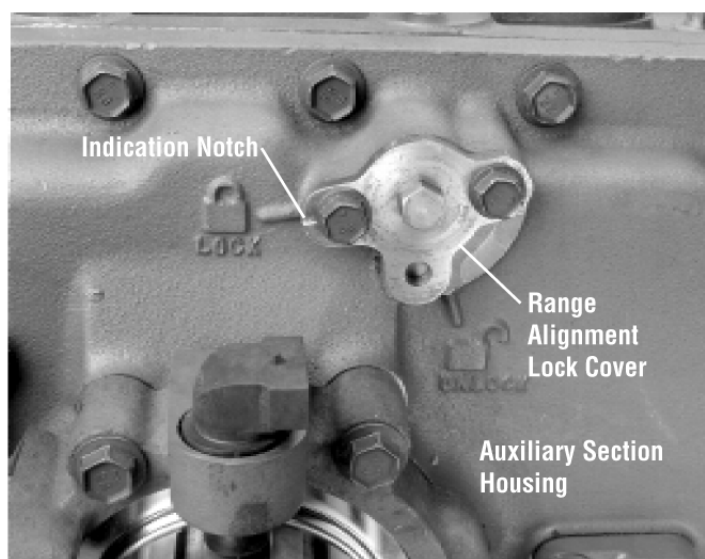

Figure 4-3 Range Alignment Lock Cover
5. Install the air module, and remove the range alignment lock cover (Figure 4-3). Then move the range selection lever from the low to high (up) position. If range now shifts properly, inspect and correct the source of binding between lock cover and range yoke bar.